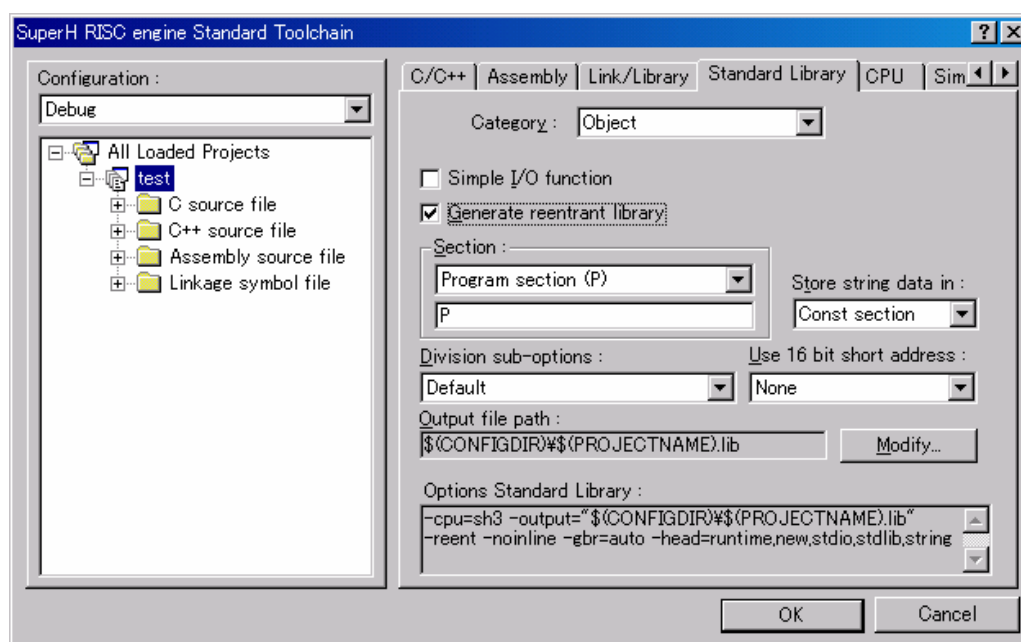

Figure 11.12 Standard Library Dialog Box
- The setting in the HEW is shown in figure 11.12.